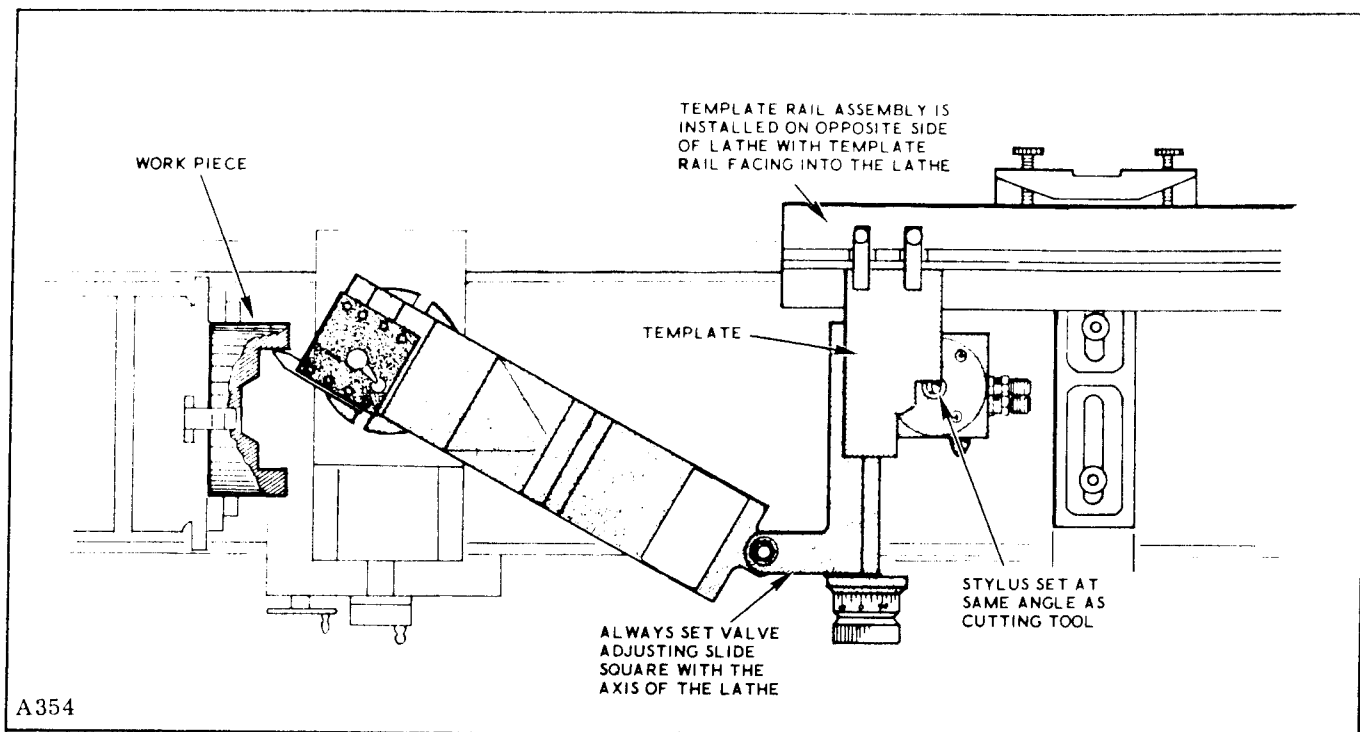

Figure 3-15. Typical Installation of Mark "O" and "O-A" Series for Facing Operation
- c. The Mark "O" and "O-A" template rail assemblies may be installed to accommodate any required tracer slide angle. Figure 3-15 shows a typical installation for a facing operation. In this installation, note that the the template rail assem-